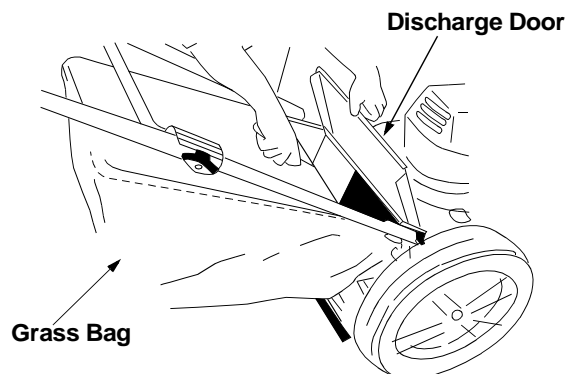

Figure 8
- Place the hooks, found on both sides of the grass catcher frame, over the chute door pivot rod at the rear of the mower. See Figure 8. Release the rear discharge door.
- **To remove the grass catcher,** lift the rear discharge door on the mower. Lift the grass catcher up and off the pivot rod. Reinstall the mulching baffle and release the rear discharge door. See Figure 8.